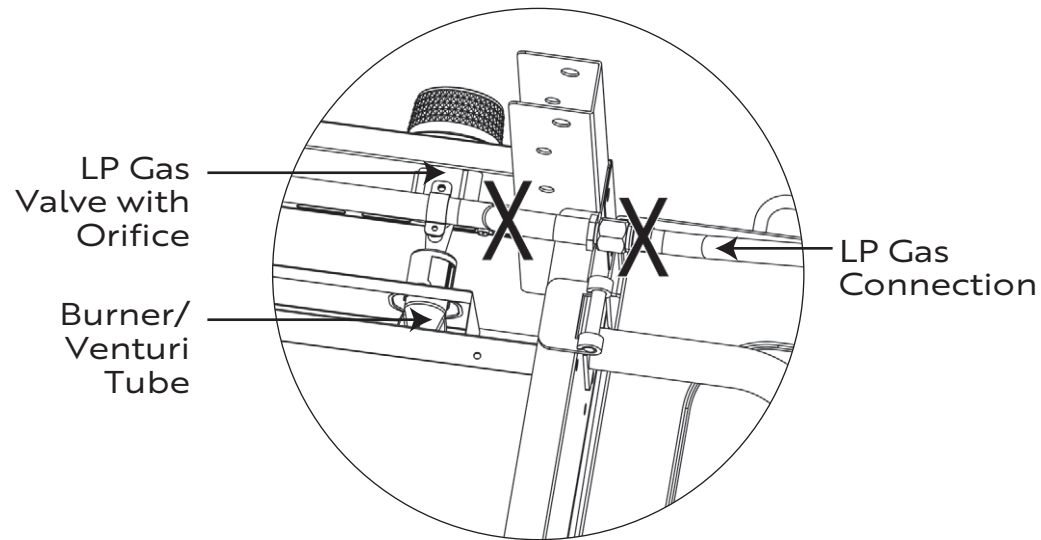

Figure 1
4. Please refer to the diagram for proper installation (Figure 1)
5. Spoon several drops of solution, or use a squirt bottle, at all "X" locations (Figures 1 and 3).